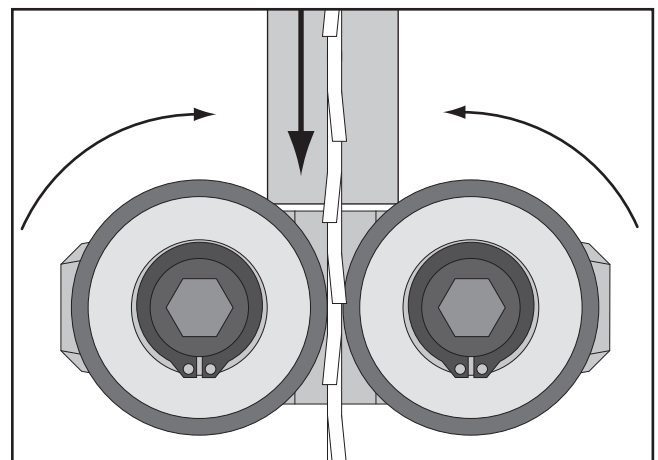

Figure 24. Blade guide bearings against both sides of blade.
8. With a hex wrench, rotate the cap screws in the center portion of the blade guides to position the bearings so they make very light contact on both sides of the blade as illustrated in **Figure 24**.